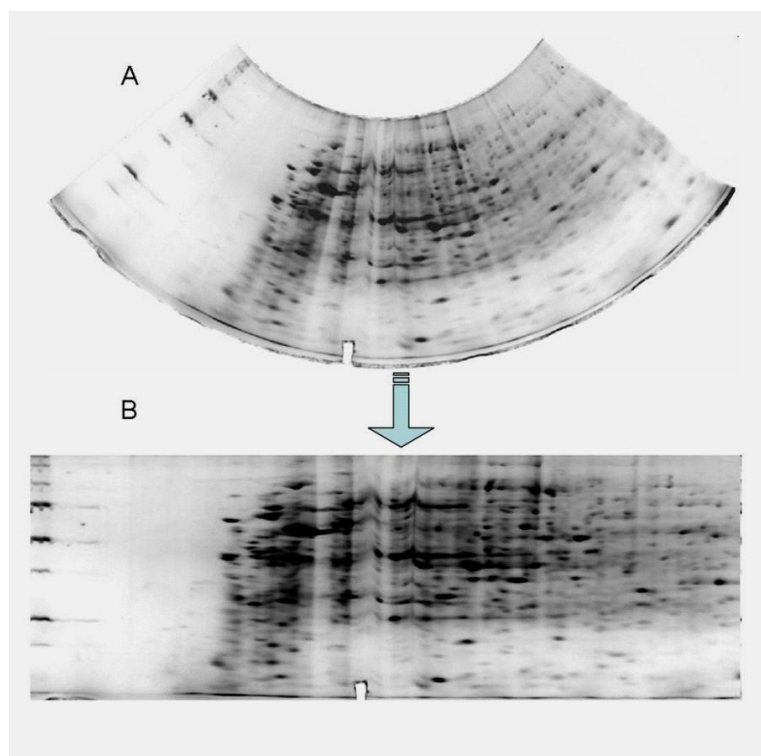

Figure 18
- Thanks to the collaboration of the bioinformatics company Decodon GmbH, the Delta2D software package allows for the conversion of radial dimensional images into Cartesian ones, a useful step since the Cartesian visualization is the more user-friendly data view for image elaboration. Thanks to this program, it is possible to obtain perfect Cartesian maps from the radial ones, retaining the increased resolution (an example is reported in figure 18).